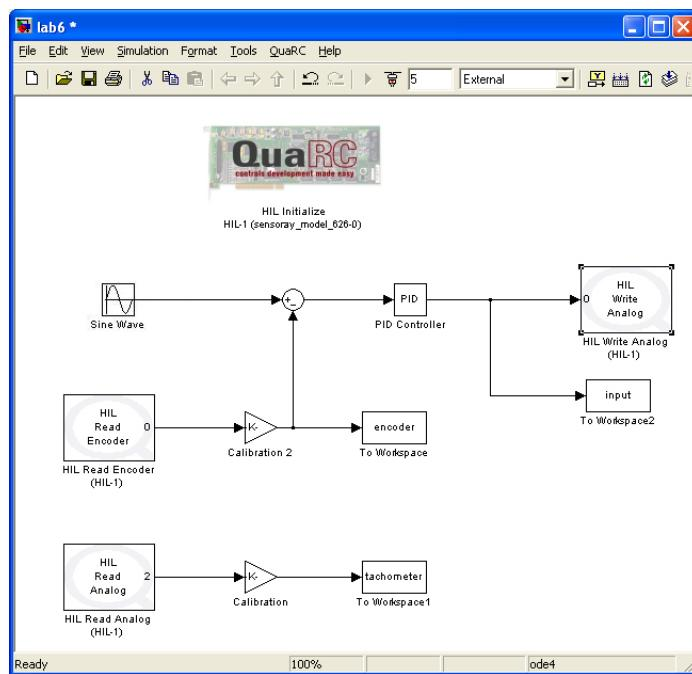

Figure 8.3: Simulink model for the implementation of PID control using frequency response method; sinusoidal reference
4. Now run the system with your “good” values for K , T_D , and T_I and a sinusoidal input whose magnitude is 1 and whose frequency is the crossover frequency that was calculated above; see Figure 8.3 for the Simulink. What is the magnitude of the output compared to the input, and what is the phase of the output relative to the input?